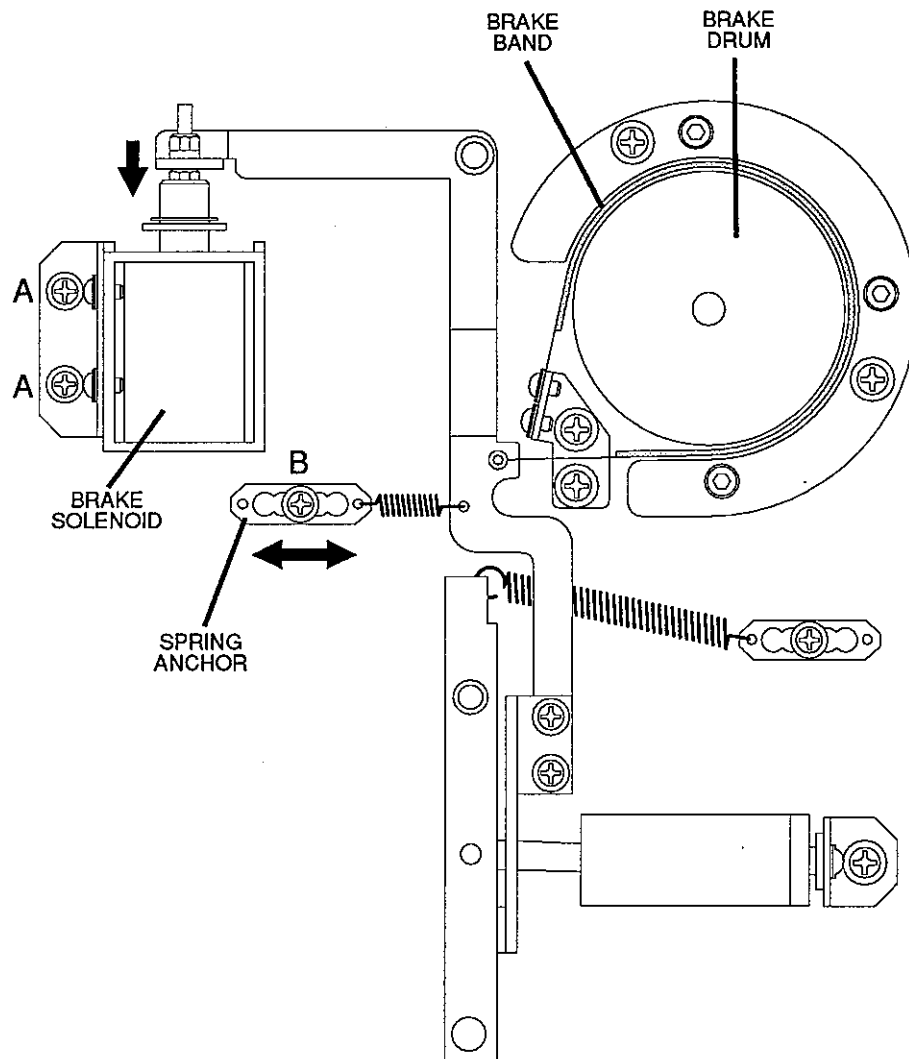

Figure 4-11
10. Push the solenoid plunger into the solenoid, and while holding it, rotate the Reel Table. If the Brake Band rubs on the Brake Drum, loosen the two screws marked "A" in **Figure 4-11** and adjust the position of the Brake Solenoid so that the Band no longer rubs on the Drum.
11. To adjust the brake tension, loosen the screw marked "B" in **Figure 4-11**, and move the spring anchor to adjust the brake tension. Moving the Spring Anchor toward the solenoid increases the brake tension.